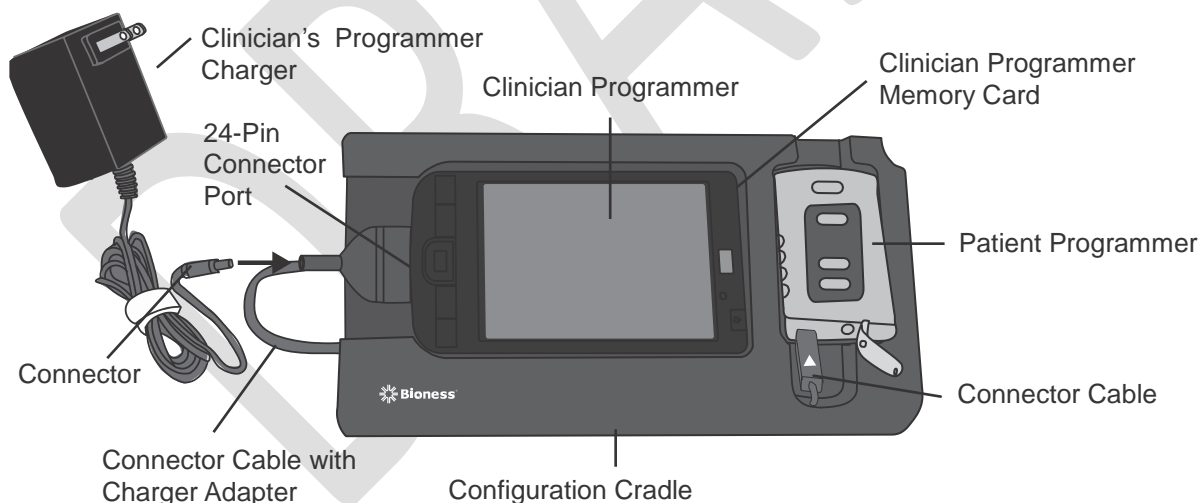

Figure 6-1. The clinician programming system set-up configuration.
1. Orient the clinician programmer in the configuration cradle with the touchscreen facing up and the 24-pin connector port facing left. See Figure 6-1.
1. Insert the connector on the clinician's programmer charger into the charger adapter on the connector cable. See Figure 6-1.